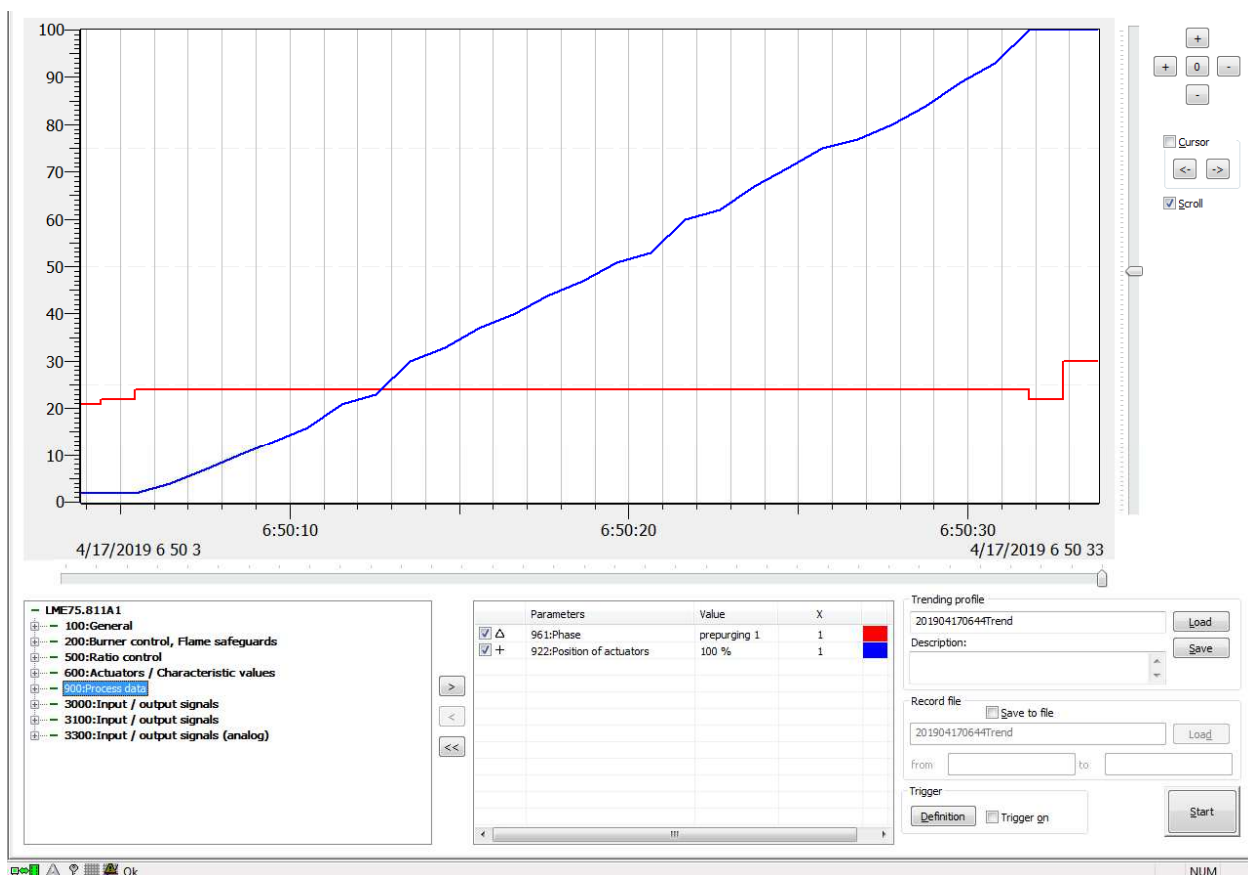

Figure 9-1: The ACS410 Trending Screen
1. Open the ACS410 software and connect at the desired access level. For example, when logged in at the user level, only user level parameters can be trended. See previous sections if necessary. Most parameters that are desirable to trend are user level parameters (900 series parameters). After the connection is established, click on the “Trending” tab. An example of the trending screen is shown below in Figure 9-1.